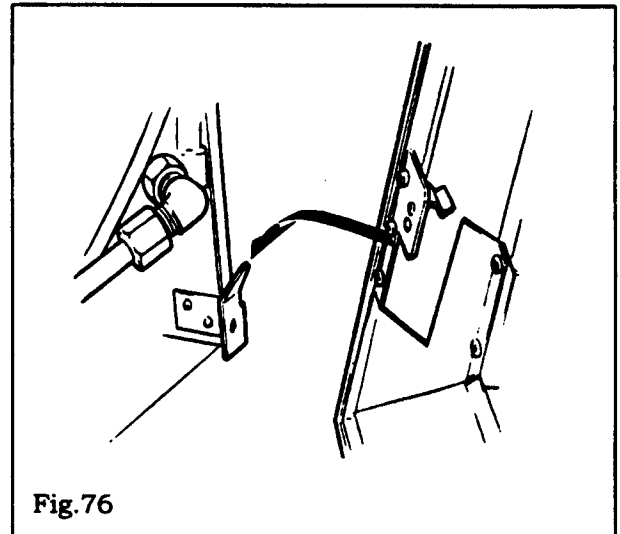

Fig.76
19.3.1 Locate the brackets over the claws on the engine. (Fig.76)